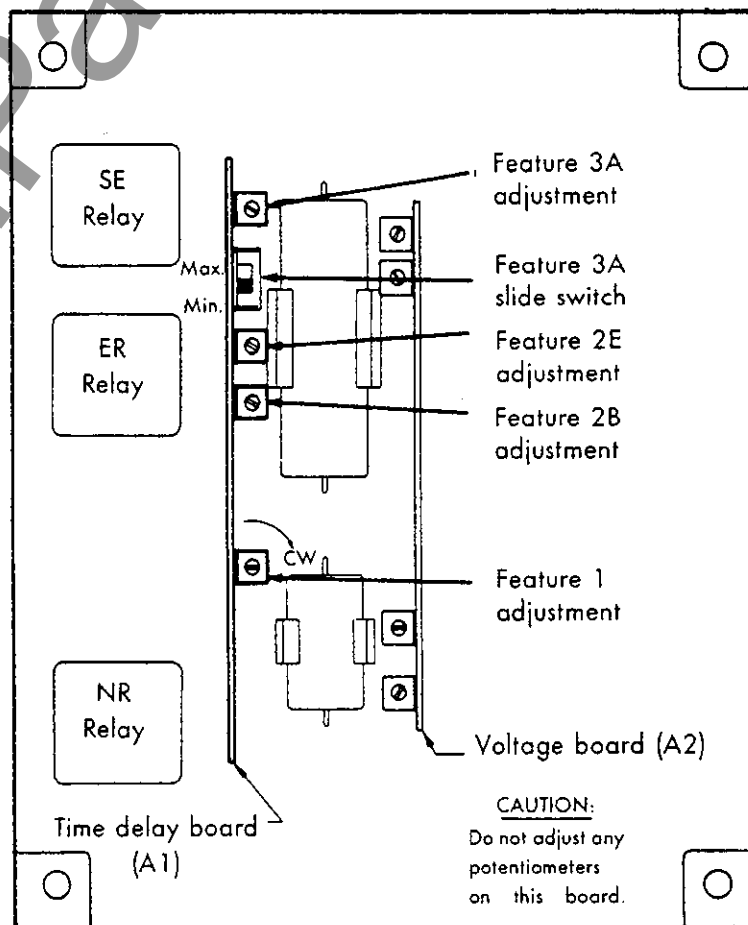

Figure 9. Location of potentiometers
4. Remove the *A1* time delay board from its socket by pressing both latches outward. See Figures 9 and 10.